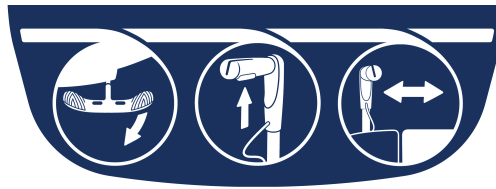

Figure 14 – Zoom operation
8. Grasp the **Zoom** handles at the two raised grip areas. Squeeze one or both of the motion release switches under the handles to move the product (Figure 14).